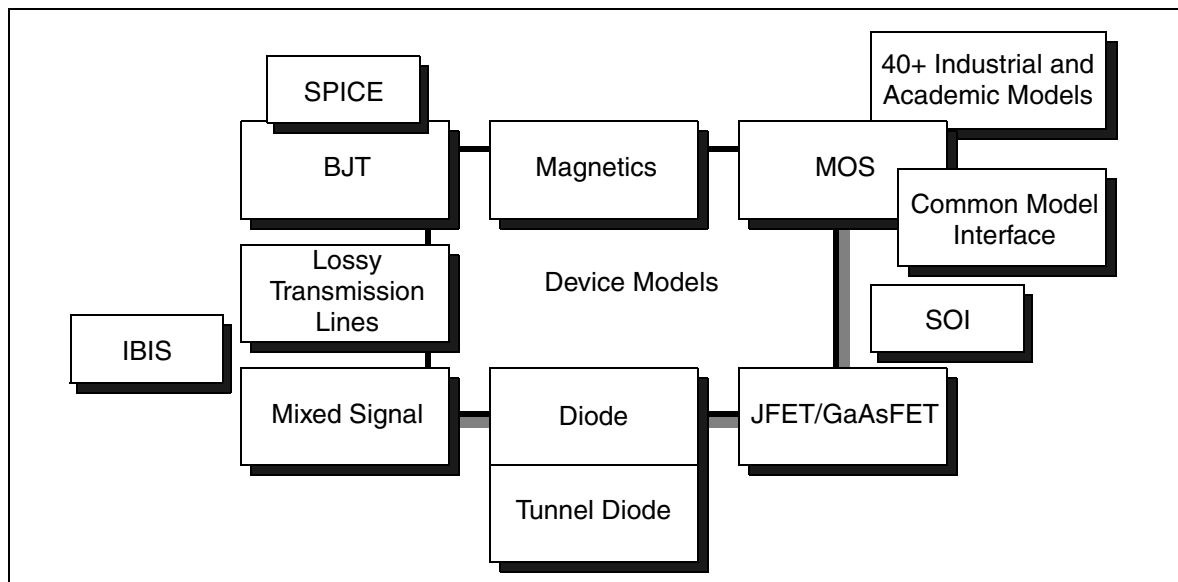

Figure 2 Synopsys HSPICE Modeling Technologies
- A number of circuit analysis types (see Figure 2 on page 4) and device modeling technologies.